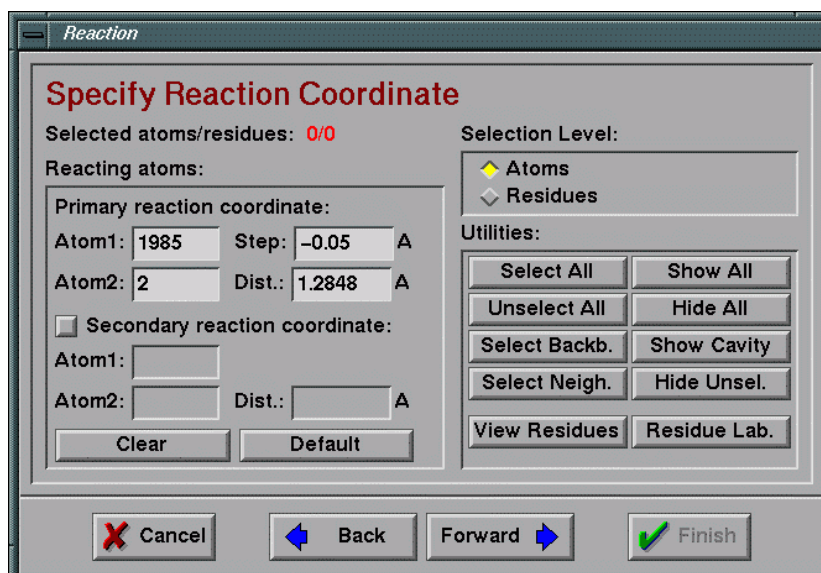

Fig 13.14 Window for reaction co-ordinate specification
- 10) Specify two atoms, which will interact and create a new bond. Distance of these two atoms will be considered as reaction co-ordinate (**Fig 13.14**). The distance will be reduced/increased step by step simulating the chemical reaction. You can specify the two reacting atoms by clicking on them in 3D-model window. In the case shown below, the atom 2 will interact with the atom 1985. You must also specify the size of driving step, i.e. the change in distance between two reacting atoms. Default value is 0.05 Å. The value must be negative if the atoms should be approaching each other. The value of *Dist.* defines the final distance between the two approaching atoms and it is automatically set to be smaller than the optimal distance of the formed bond.
- Specify the atoms forming the reaction co-ordinate (**Fig 13.14**). Choose the carbon atom on DCE, which is closer to Asp124 and binds Cl (C2) and the oxygen on Asp124 (O1985) by clicking on them in 3D structure window. The original distance between them is 3.48 Å (see in **Fig 11.1**) and final distance after driving is 1.28 Å (see “Dist.” in **Fig 13.14**). Set the DRIVER size as **-0.05 Å** (atoms are approaching and their distance shortens).